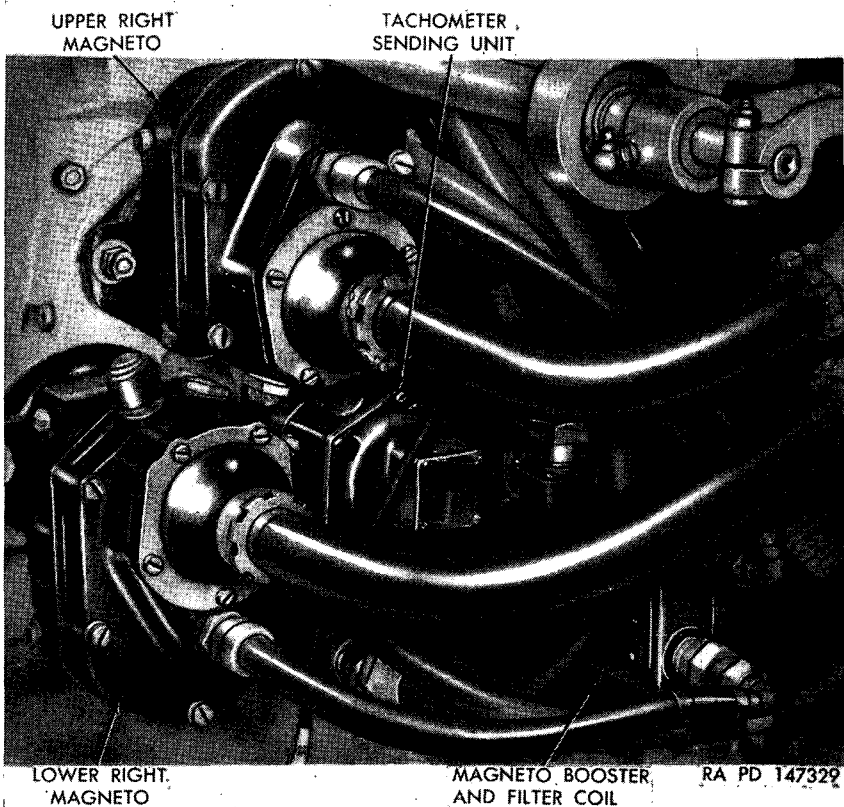

Figure 162. Upper and lower right magnetos and booster and filter coils.
b. MAGNETOS (fig. 162). The two lower magnetos fire the spark plugs at the flywheel ends of the cylinders. The two upper magnetos fire the spark plugs at the accessory ends of the cylinders. All four magnetos are flange-mounted on the engine accessory case. They employ rotating magnets, pivotless-type breakers, and integral-type cam and distributor-cam electrodes. Rotation of the magnetos is counterclockwise as viewed from the drive end. The magnetos are gear-driven at one-half engine crankshaft speed. The magnetos are
e. **BOOSTER AND FILTER COILS.** Two booster-and-filter-coils assemblies (figs. 162 and 172) are used, one on each side of the engine accessory case near the magnetos. Each booster coil, which is in series with the primary of a lower-magneto coil, is fed from the 24-volt battery when the booster switch (fig. 18) is turned on. The boosters are used to facilitate starting the engine, since the engine cranking speed will not rotate the magneto magnets fast enough to cause the magnetos to produce a satisfactory spark. Each magneto ground cable is connected through a filter coil to the main-engine magneto switch on the instrument panel. The filter coils act as radio interference suppressors, bypassing to ground any radio interference signals generated in the ignition system.